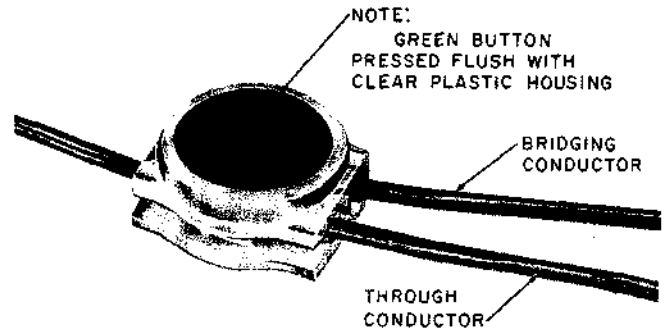

Fig. 6—Connector With Through Conductor and Bridging Conductor After Pressing
- (5) Press the connector until the green button is flush with the clear plastic housing (Fig. 6).